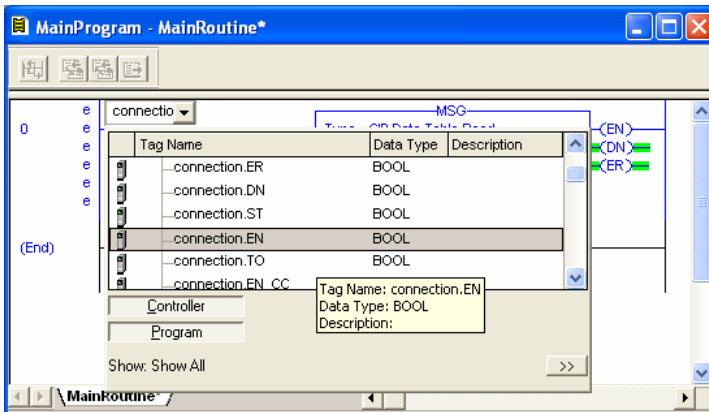

Figure 49: Configure XIO Element
- a) Double-click on the XIO element located to the left of the MSG block. In the drop-down box, double-click on the "connection.EN" field. Refer to Figure 49. This configuration causes the MSG instruction to automatically retrigger itself when it completes. While this is acceptable for the purposes of this example, it can produce high network utilization. In actual practice, it may be desirable to incorporate additional logic elements to allow triggering the MSG instruction at a specific rate or under specific conditions.